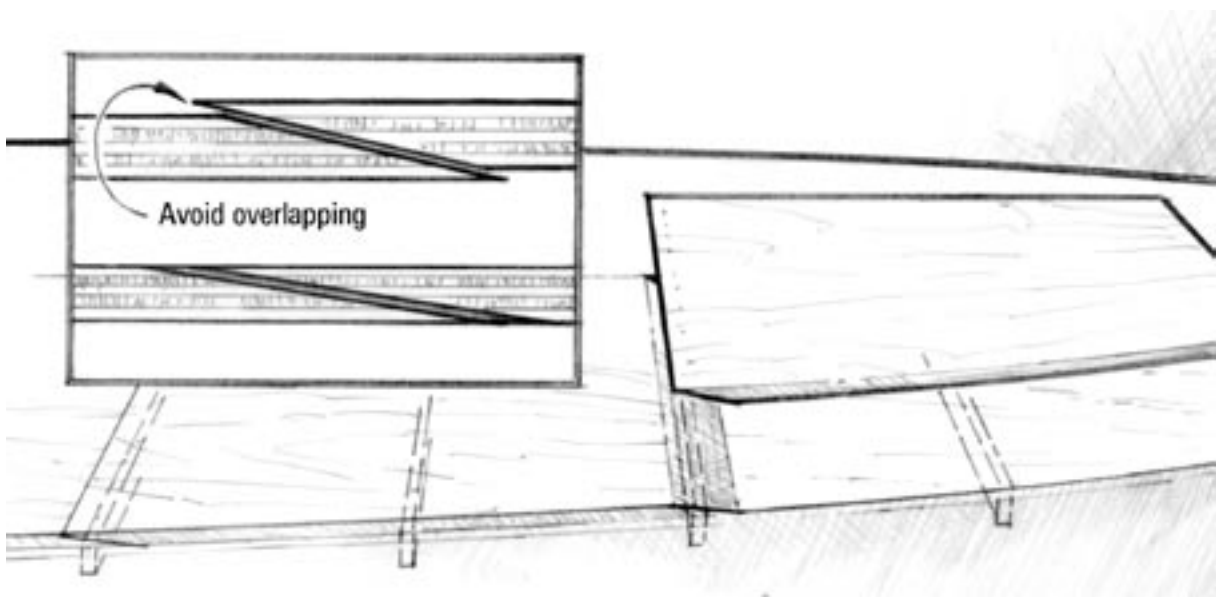

Figure 6-14 Plan the panel layout so that scarf joints will fall over beams for better clamping.
1. Prepare plywood panels, scarf joints and beam surfaces. Plan both the panel layout and order of assembly so that the scarf on the following sheet lies over the scarf on the previous sheet (*Figure 6-14*).
4. Lay the sheet in position over the frames. Align the scarf joint to avoid overlapping (*Figure 6-14*).